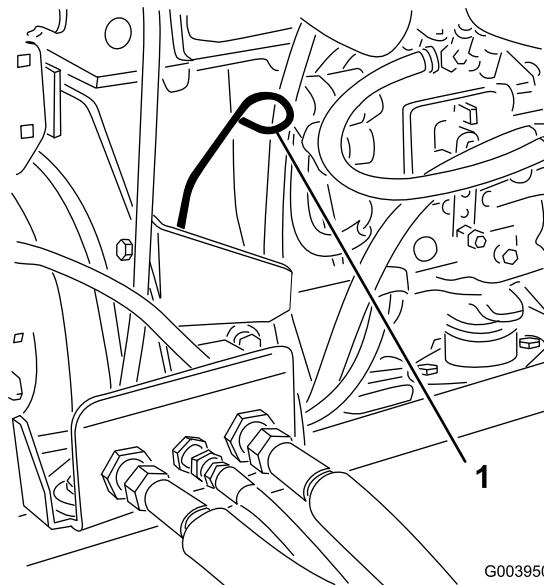

Figure 48
3. Remove the dipstick, wipe it clean, and install it (Figure 48).